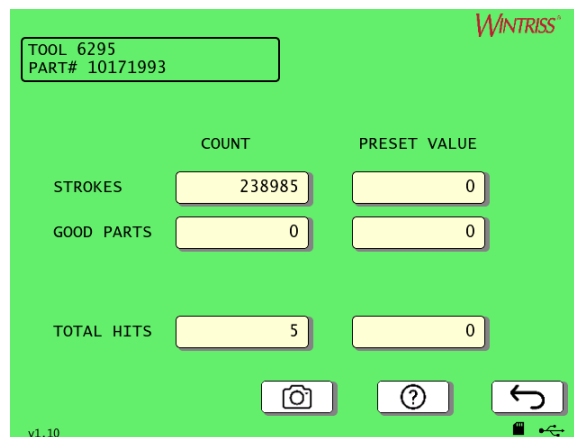

Figure 4-11. Tool Program Counter Screen
1. Press COUNTERS. The counters screen appears, Figure 4-11.